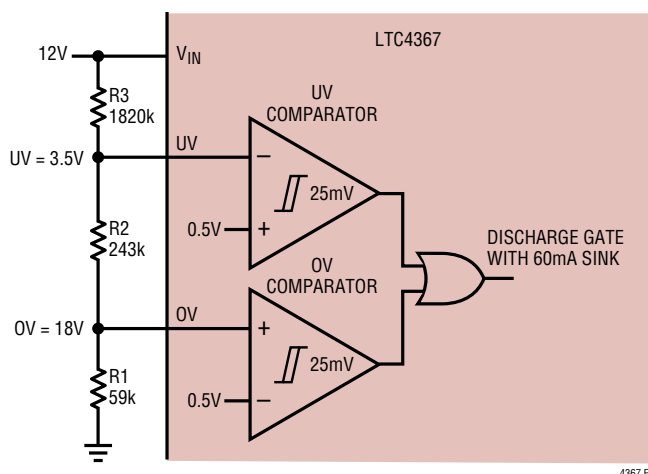

Figure 4. UV, OV Comparators Monitor 12V Supply
The LTC4367 provides two accurate comparators to monitor for overvoltage (OV) and undervoltage (UV) conditions at V_{IN} . If the input supply rises above the user adjustable OV threshold, the gate of the external MOSFET is quickly turned off, thus disconnecting the load from the input. Similarly, if the input supply falls below the user adjustable UV threshold, the gate of the external MOSFET also is quickly turned off. Figure 4 shows a UV/OV application for an input supply of 12V.
The external resistive divider allows the user to select an input supply range that is compatible with the load at V_{OUT} . Furthermore, the UV and OV inputs have very low leakage currents (typically $< 1nA$ at $100^{\circ}C$), allowing for large values in the external resistive divider. In the application of Figure 4, the load is connected to the supply only if V_{IN} lies between 3.5V and 18V. In the event that V_{IN} goes above 18V or below 3.5V, the gate of the external N-channel MOSFET is immediately discharged with a 60mA current sink, thus isolating the load from the supply.
The following 3-step procedure helps select the resistor values for the resistive divider of Figure 4. This procedure minimizes UV and OV offset errors caused by leakage currents at the respective pins.
The example of Figure 4 uses standard 1% resistor values. The following parameters were selected: